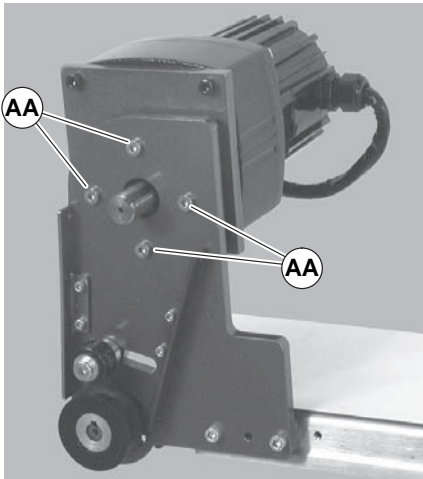

Figure 19
7. Remove four gear motor mounting screws (Figure 19, item AA). Remove gearmotor/adapter plate Assembly.
10. Install gearmotor/adapter plate assembly on mounting bracket with screws (Figure 19, item AA). Tighten screws to 103 in-lb (12 N-m).